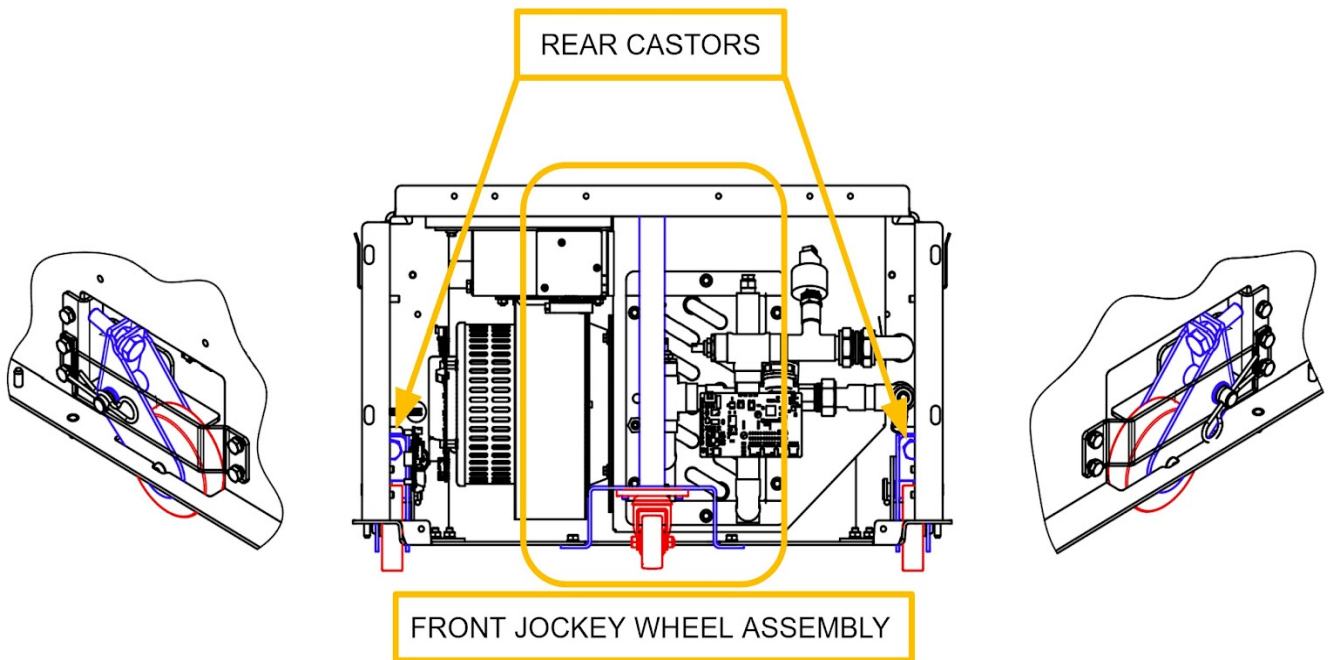

Figure 6: Castor deployment and retraction mechanism
- Retractable castors can be deployed for final positioning of the ZEB®. See **Figure 6**